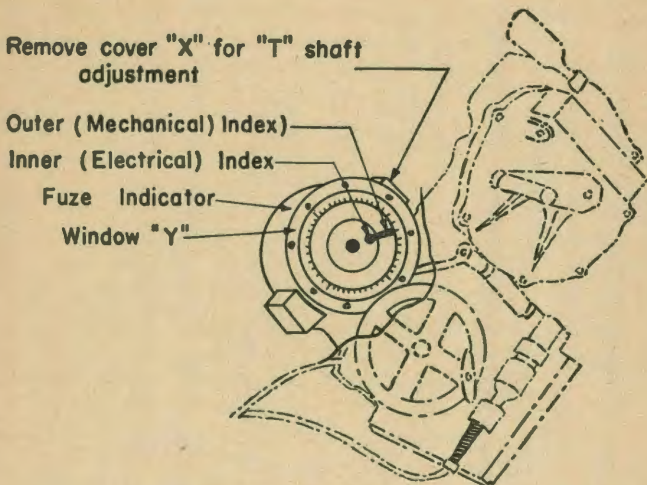

FIGURE 15.—Fuze setter, M13.
- 5 compares reading of the set fuze with the reading of the mechanical pointers on the fuze indicator—if there is a discrepancy, verifies it by setting at least two additional fuzes; unscrews and removes glass window (Y) (fig. 15) from face of fuze indicator, loosens six retaining screws on the fuze range scale clamping ring and slips fuze range scale around under clamping ring until the average value that was actually set on fuzes is opposite the mechanical index; sets not less than two new fuzes
5 turns adjusting handwheel on fuze setter until mechanical pointer indicates the fuze range received orally from the GC; if necessary, removes cover (X) (fig. 15) on fuze indicator and turns the slotted shaft until the electrical (inner) pointer is opposite the mechanical (outer) pointer; replaces lamp well cover.